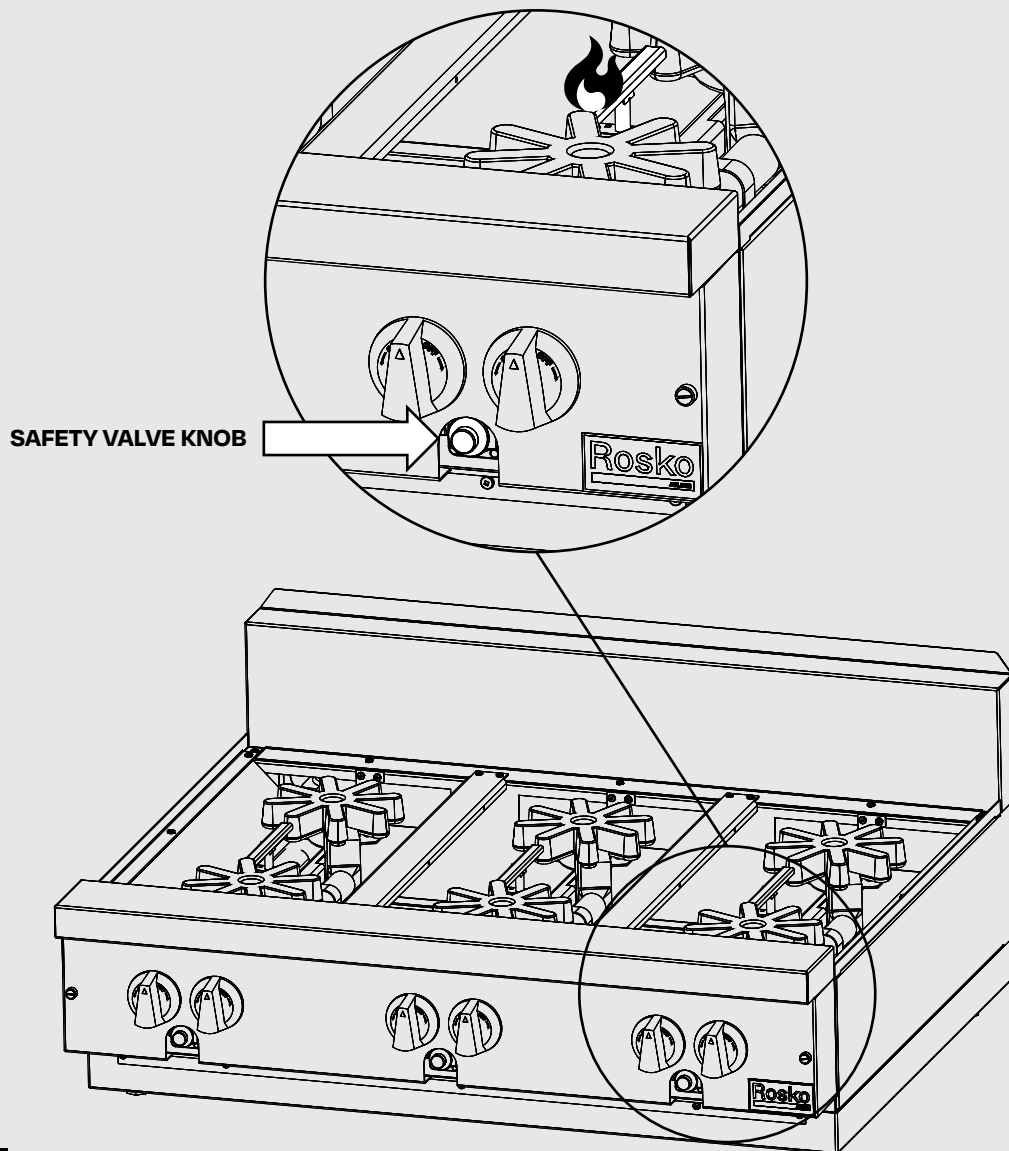

Figure 11
1. Turn the infinity controls to the "OFF" position and wait five (5) minutes.
Then, hold the safety valve knob for one (1) minute. Repeat this step for each pilot. **(Figure 11)**